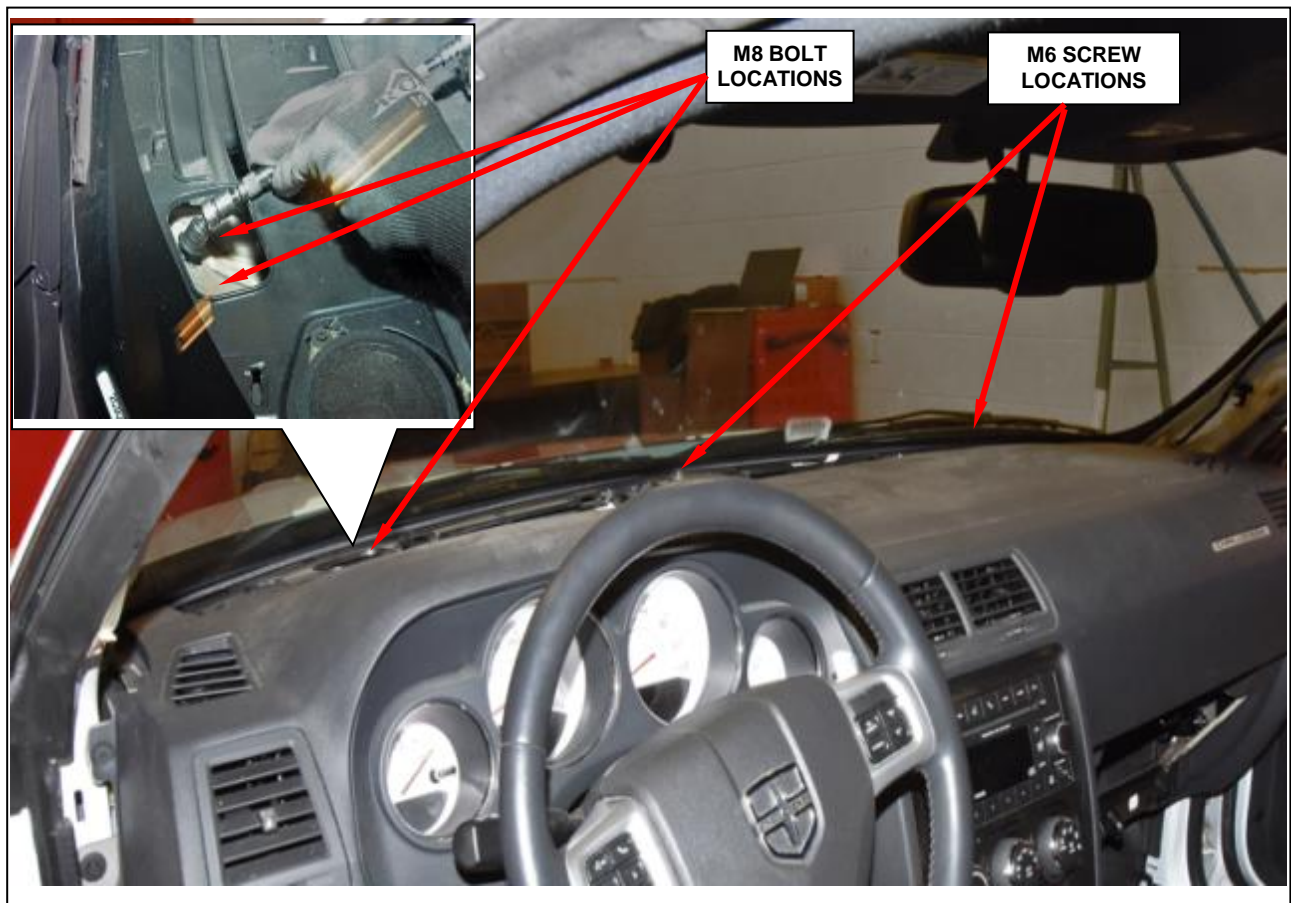

Figure 76 – Top Instrument Panel Fasteners
33. Remove the defroster grille to access the instrument panel top retaining bolts then remove and save the two M8 bolts and two M6 screws (Figure 76).